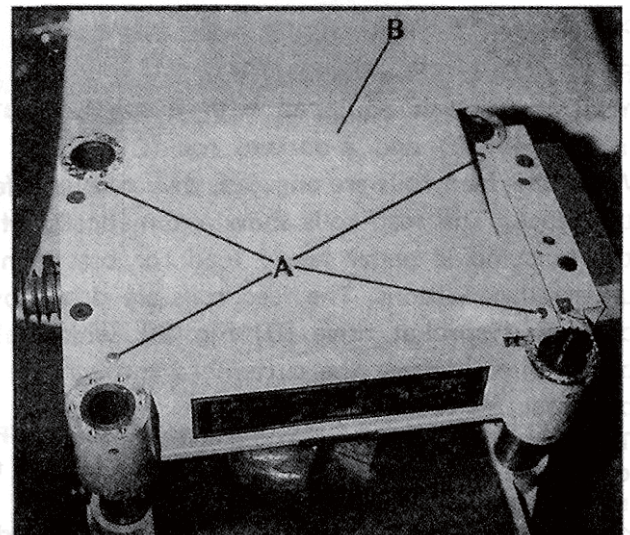

Fig. 24
2. Remove four screws, three of which are shown at (A) Fig. 24, and remove top cover (B).